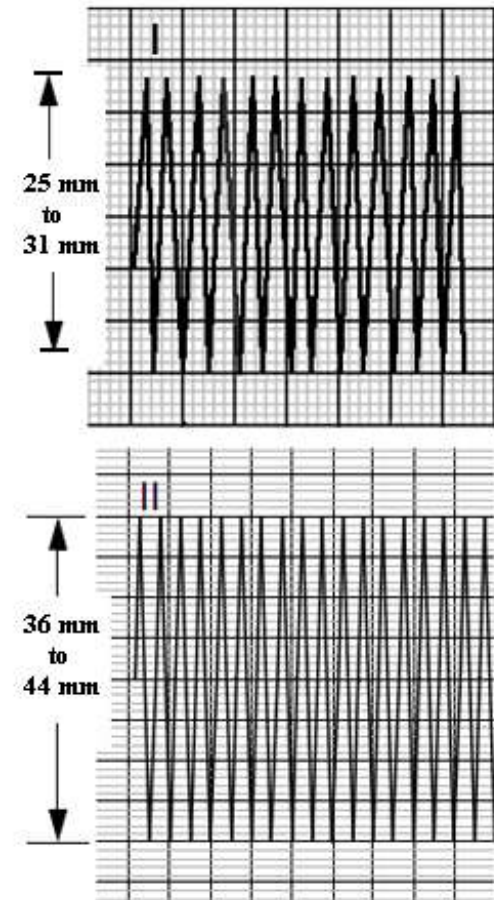

Figure 5.34—Signal amplitude for 12-lead gain test
4. Print five seconds of ECG Lead I, and confirm the printed signal amplitude is 25 mm to 31 mm, peak-to-peak, as shown in Figure 5.34.
6. Print five seconds of ECG Lead II, and confirm the printed signal amplitude is 36 mm to 44 mm, peak-to-peak, as shown in Figure 5.34.